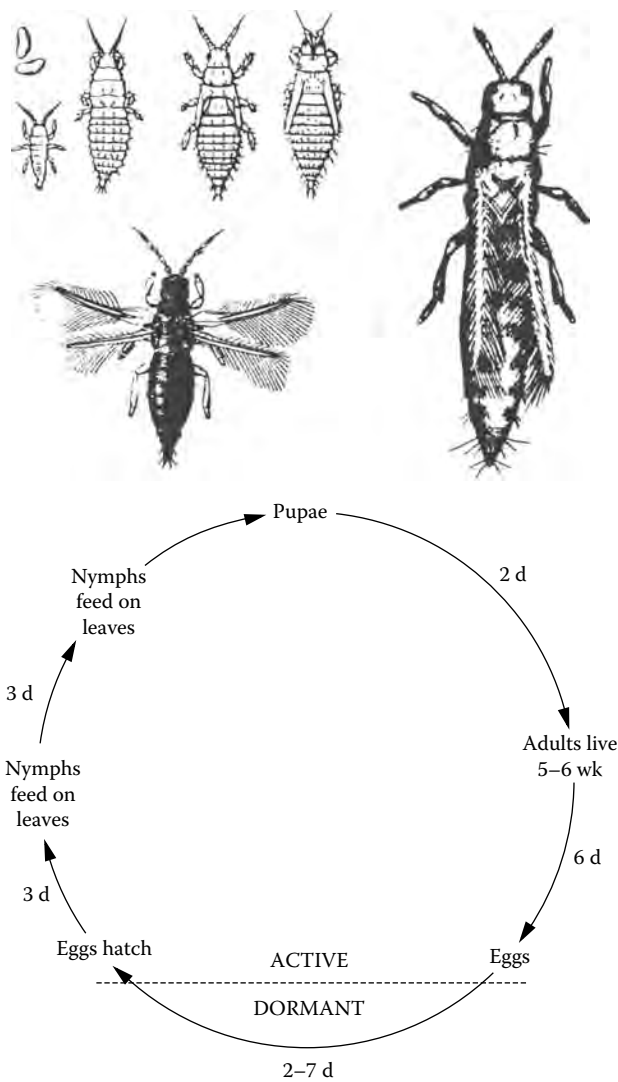

FIGURE 25.6 Thrips with life cycle. (Insect drawings courtesy of J.R. Baker, North Carolina Agricultural Extension Service, Raleigh, North Carolina.)
- 4. *Thrips*: These insects are especially attracted to the flowers. Their distinct feature is the presence of feathery wings (Figure 25.6). They have rasping mouthparts that scrape the leaf surface and suck the plant sap, causing white, silvery streaks on the leaves. They, like whiteflies and aphids, also carry viruses. Thrips are more attracted to blue sticky traps.